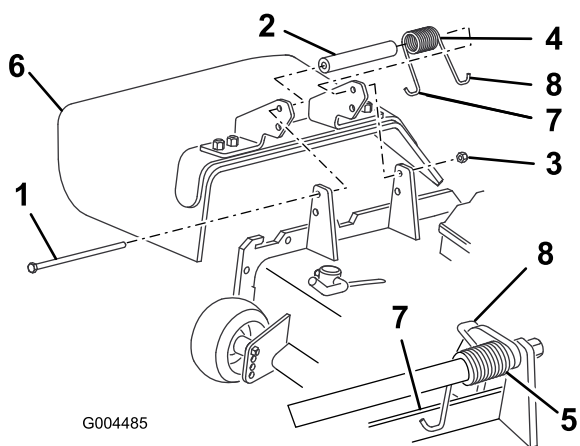

Figure 75
2. Remove the locknut, bolt, spring and spacer holding the deflector to the pivot brackets (Figure 75). Remove damaged or worn grass deflector.
- Place the spacer and spring between the replacement grass deflector brackets (Figure 75). Place the left hand J-hook end of the spring behind the deck edge.
Note: Make sure the left hand J-hook end of the spring is installed behind the deck edge before installing the bolt as shown in Figure 75.
- Install the bolt and nut. Place the right hand J-hook end of the spring around the grass deflector (Figure 75).